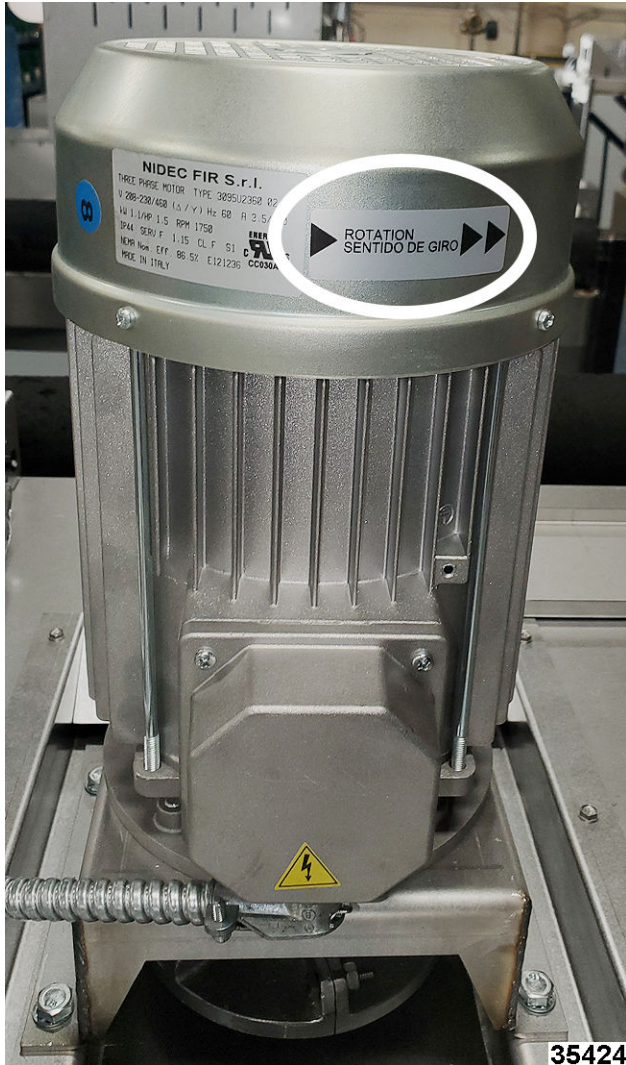

Fig. 129
8. For 3-phase option, verify that baking compartment circulation blower is turning in direction indicated on motor (Fig. 129). If not, disconnect power and switch any two of the three phase lead wires.